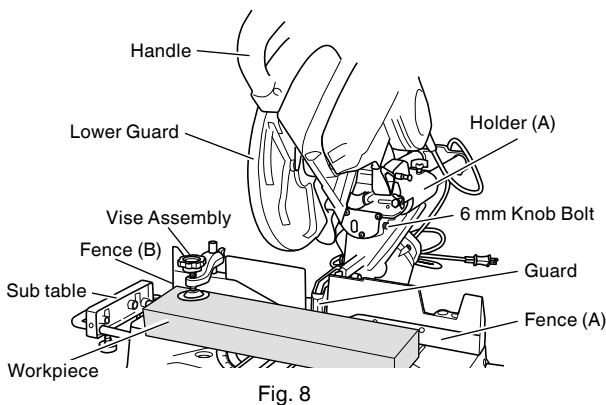

Fig. 8
Holder (A) has a guard (see Fig. 8) into which a groove must be cut when using the tool for the first time. Loosen the 6 mm knob bolt to retract the guard slightly.